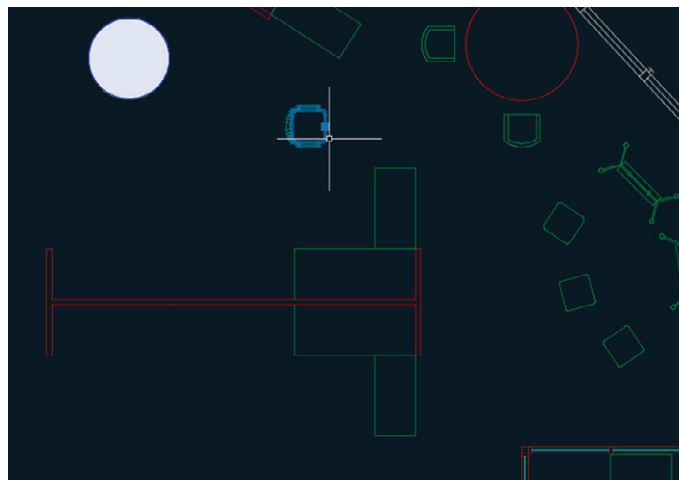

FIGURE 4.10 Moving a selected object by dragging
2. Click the chair that is not in front of a desk to select it. Position the cursor over the selected chair, but not over its grip. Drag the chair while holding down the left mouse button to move it closer to the upper desk, as shown in Figure 4.10.